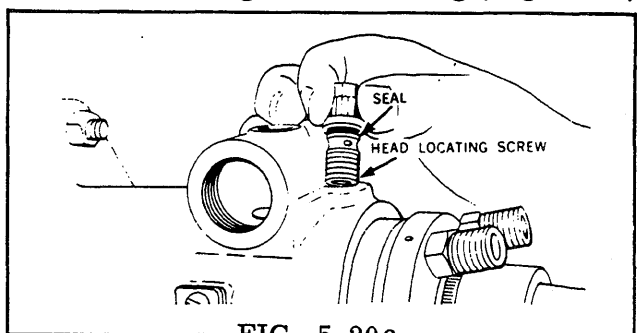

FIG. 5.20a
STEP 20 Invert the pump and holding fixture in the vise. Coat the seal of the head locating screw with clean grease. Insert and tighten the head locating screw to specified torque (Fig. 5.20a and 5.20b).